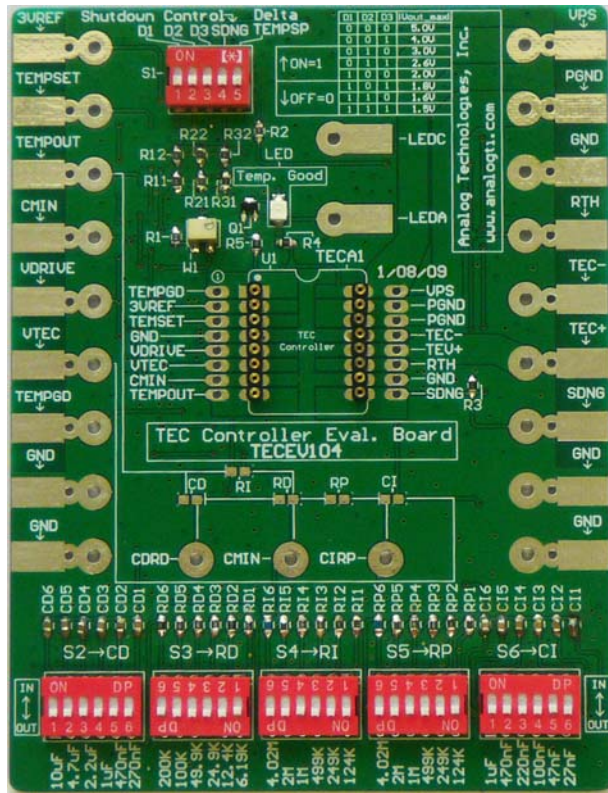
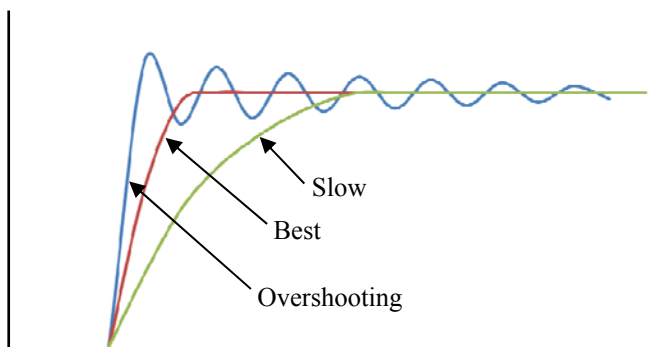
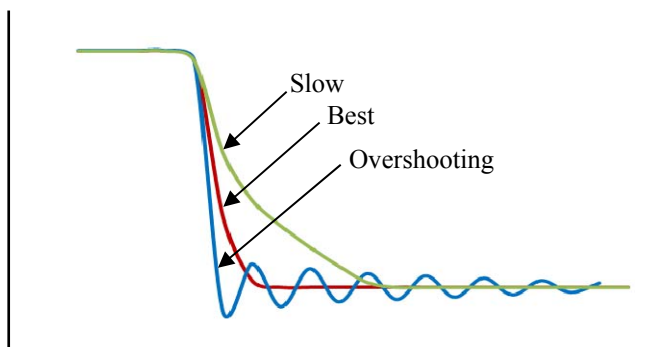

Figure 1. The Physical Photo of TECEV104
Figure 8. Rise Waveforms of VTEC
Figure 9. Fall Waveforms of VTEC
Its photo is shown in Figure 1. The TEC controller module is located in the center of the TECEV104 Evaluation Board. The voltages of all its pins can be measured directly by probing the vias on the left and right side of the module sockets which are connected directly with pins of the electronic module. Some of the pins are also connected to the soldering pads with two vias on the edges of the board. The names of all these nodes are marked on the board.
There are solder pads on the left and right edges of the board. These pads can be used for connecting the external instruments or components with and the connections can be made by soldering wires, clipping by alligator clips or probing by probes. See Figure 1, 2 and 3. There are solder pads also on the top and the lower side center of the board. These pads can be used for connecting the external instruments or components and the connections can be made by probing with probes or soldering wires.
1. Hook up the power supply, TEC and thermistor. There are 2 solder pads in the upper right area on the edge for connecting the DC power supply voltages in the right polarity as indicated onto the board. Usually the power supply is set to 5V. There are also 2 solder pads in the center right area on the edge for connecting the TEC terminals in the right polarity as indicated onto the board. Connect the thermistor terminals to the board, there is no polarity requirement. On the top of the board, there is the switch bank S1, the fifth switch Delta TEMPSP is used to adjust the compensation network of temperature control loop by inputting a square wave disturbing signal in temperature input point, which enables the system to generate corresponding response waveform. At this time, observe the waveform change by oscilloscope, and adjust and optimize the compensation network of the temperature control loop so as to achieve the best waveform at the same time. Response waveform is achieved by measuring VTEC with oscilloscope, as shown in Figure 8 and Figure 9. The compensation network components consist of R_I , R_D , R_P , C_D and C_I , which will be adjusted by S2, S3, S4, S5 and S6. These connections can be done by clipping or soldering on the pads, see Figure 1. Check the evaluation board connections, making sure that they are all correctly connected.
6. Set output voltage limit. Turning switches D1, D2, and D3, up and down will set the TECA1-5V-XV-D to different output voltage limit: 1.5V, 1.6V, 1.8V, 2.0V, 2.6V, 3.0V, 4.0V and 5.0V. See Figure 1, 2, 3 and 7.
- a. To know the actual target temperature, use a voltage meter to measure the voltage between the TEMPOUT and the GND pins, the reading result is: target temperature = 15°C + (TEMPOUT voltage (V))*6.67°C for approximation (see the curve in the TEC controller data sheet).
- c. To try other values of capacitors not provided by the evaluation board for the capacitors in the compensation network, turn down the capacitor switches, to the "OUT" position, connect the component to the corresponding soldering pads as marked on the evaluation board, see Figure 1.
- d. To shut down the TEC controller, turn the Shutdown Control switch SDNG to the "Off" position, see Figure 1.